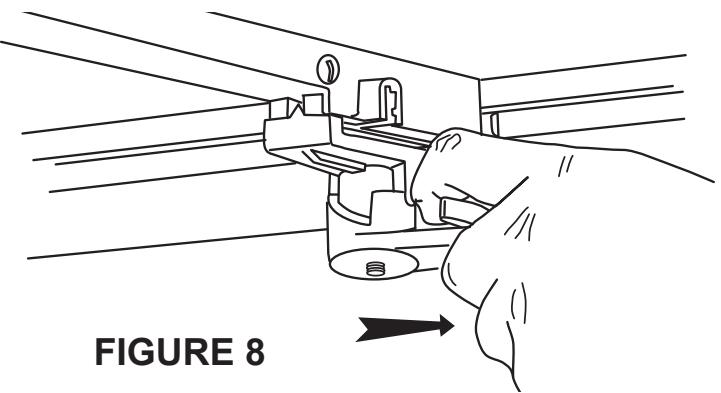

FIGURE 8
2. Before rotating the front handles, disengage the locking tabs by pulling them rearward on both front handles. See Figure 8.